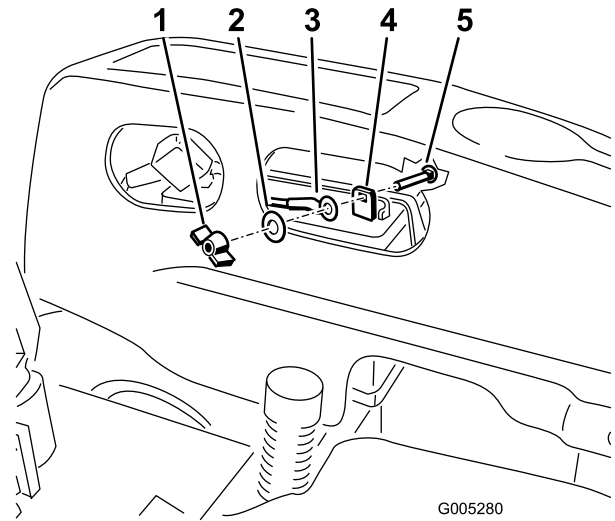

Figure 7
2. Remove the fasteners on the negative battery post and use them to secure the negative battery cable to the negative battery cable (Figure 7).